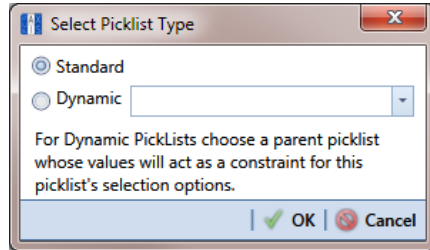

Figure 3-49. Select Picklist Type
- 4 Click  **Picklist** in the toolbar of the *Field and UDF Customizations* window to open the *Select Picklist Type* dialog box (Figure 3-49).